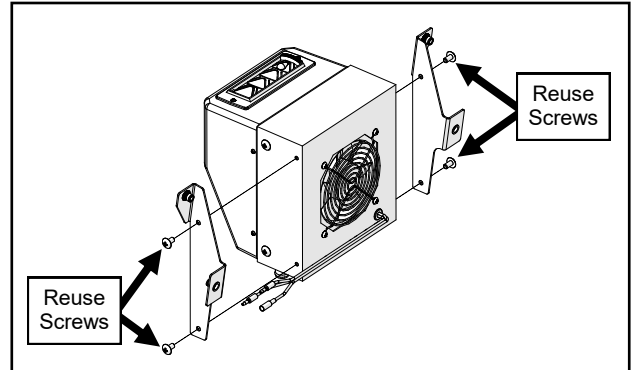

Fig. 16.1 (Pre-Install Heater Brackets)
16.1 Remove the heater screws shown in Figure 16.1 and reuse to attach the heater brackets to the sides of the heater box. Tighten hardware.